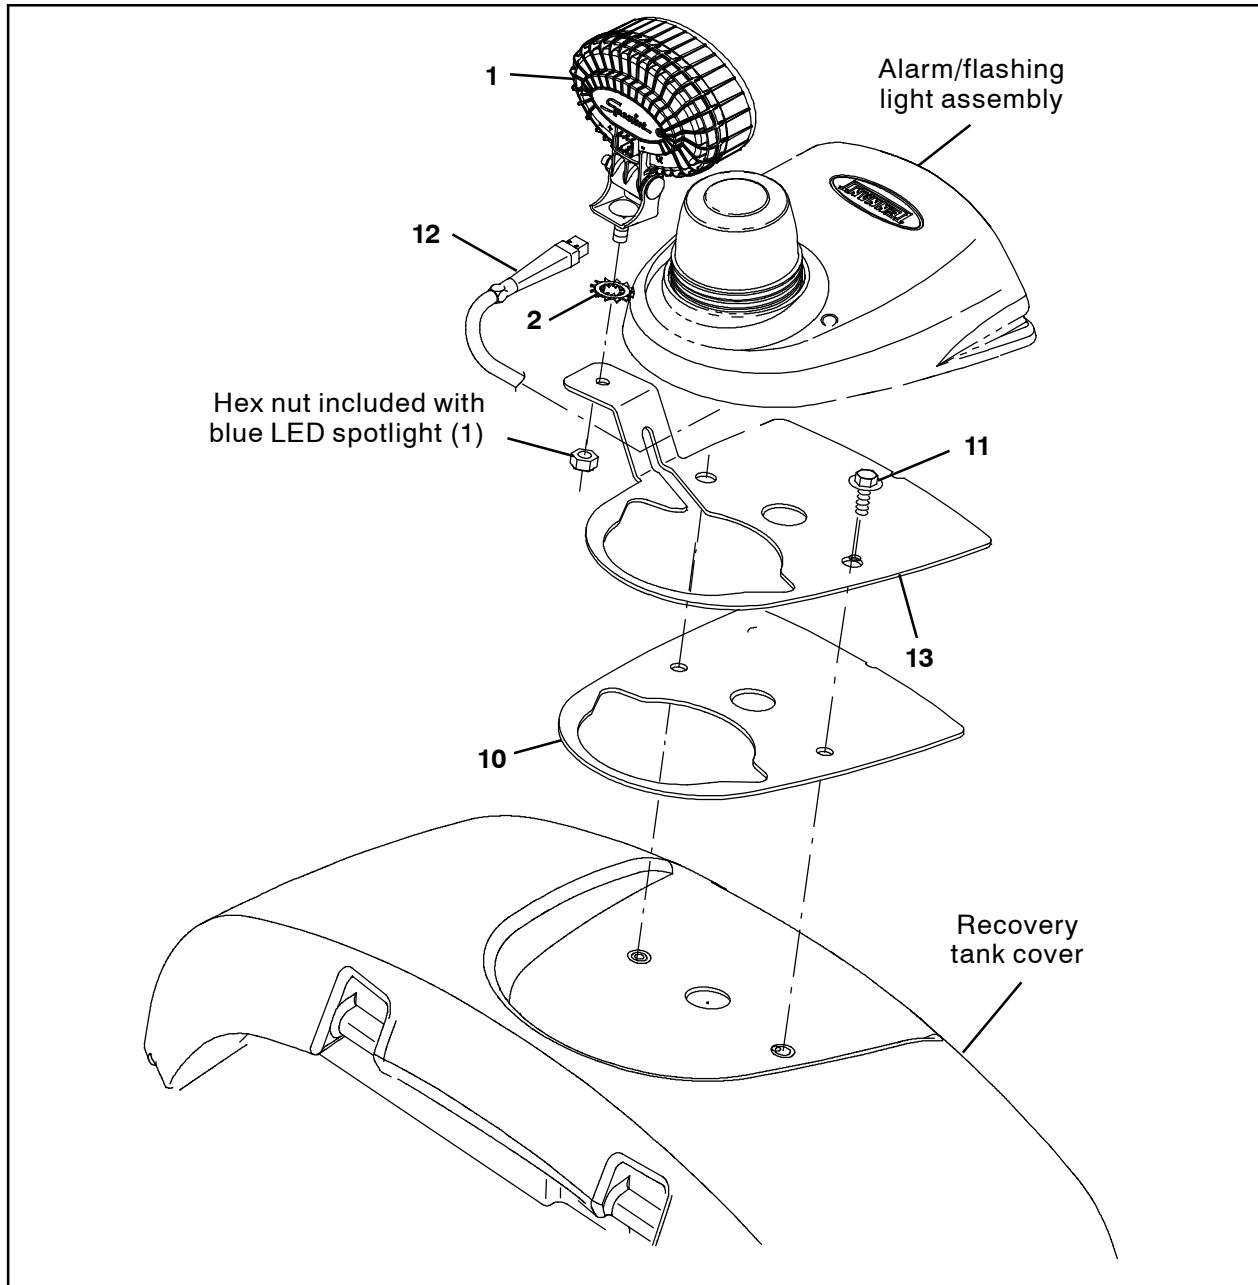

FIG. 40
42. Remove the backing from the module base gasket (10) and install the gasket onto the blue spotlight rear cover mounting bracket (13). (Fig. 40)
43. Use two SEMS M8 hex screws (11) to install the blue spotlight rear cover mounting bracket (13) onto the recovery tank cover. (Fig. 40)
44. Install the alarm/flashing light assembly onto the blue spotlight rear cover mounting bracket (13). Do not install the light module cover onto the alarm/flashing light assembly. Light module cover is later reinstalled after all cable connections are completed. (Fig. 40)
45. Remove the hex nut included with the blue LED spotlight (1) from the light. (Fig. 40)
46. Use the hex nut removed from the blue LED spotlight (1) in the previous step and a lock washer (2) to install the blue LED spotlight onto the rear cover mounting bracket (13). (Fig. 40)
47. Route the blue spotlight rear harness (12) through the notch in the blue spotlight rear cover mounting bracket (13) and connect the blue spotlight rear harness to the blue LED spotlight (1). (Fig. 40)